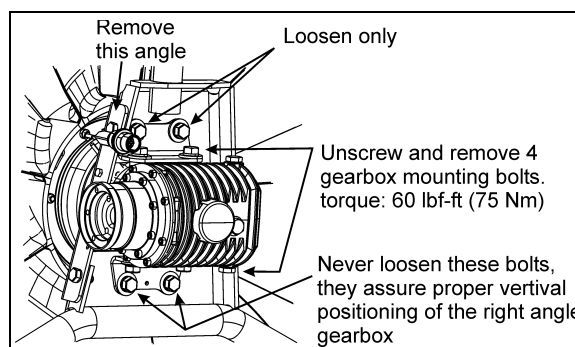

FIGURE 27: RIGHT ANGLE GEARBOX MOUNTING
5. Dismount the angle (see fig. 27).